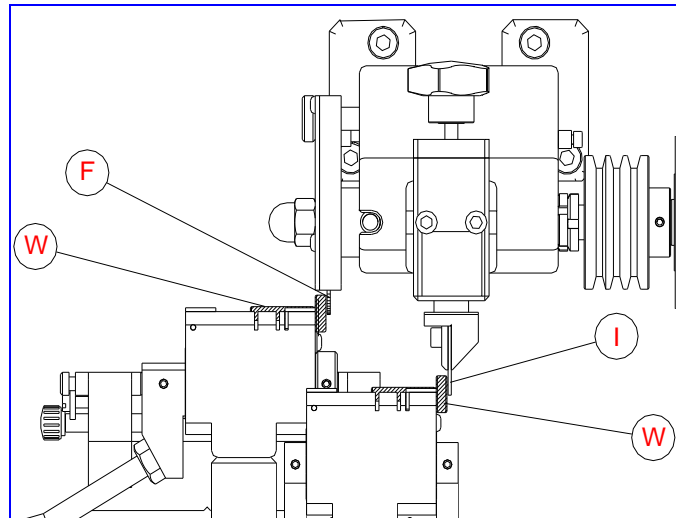
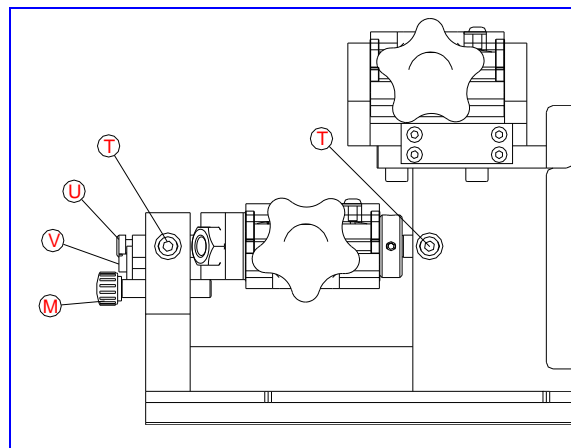

Fig.13
Fig.14
- Put the two adjustment rods (W) right into the clamps, as shown in Fig 13. Move the rod (M) forward so that the clamp is in the correct adjustment position.
- Bring the clamps with the adjustment rods (W) towards the tracer point (I) and the cutter (F), so that the adjustment rods rest on the tracer point and the cutter.
- Undo the screws (T) and using a flat screwdriver turn the screw (V). See Fig 14.
- Move the clamp to the right or left until the cutter turns and very gently touches the adjustment rod. Then, tighten up the clamp screws (T) and the machine is adjusted.